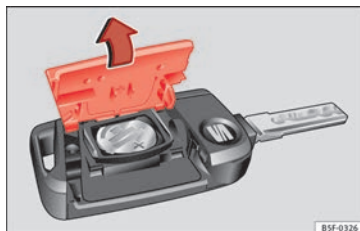

Fig. 93 Vehicle key: opening the battery compartment
- Remove the cover from the back of the vehicle key » **Fig. 93** in the direction of the arrow » **!**.
- Fit the cover as shown » **Fig. 93**, pressing it onto the vehicle key casing in the opposite direction to that shown by the arrow until it clicks into place.